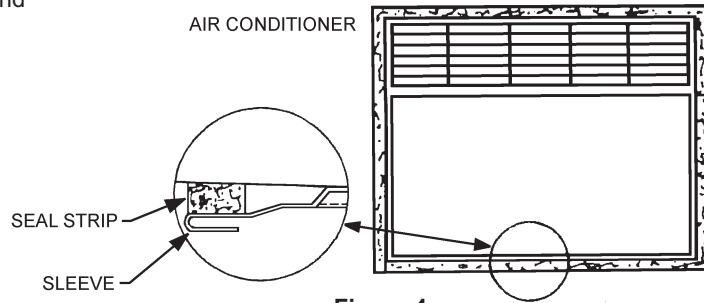

Figure 4
- Install seal strip between air conditioner and sleeve on all four sides. See Figure 4.